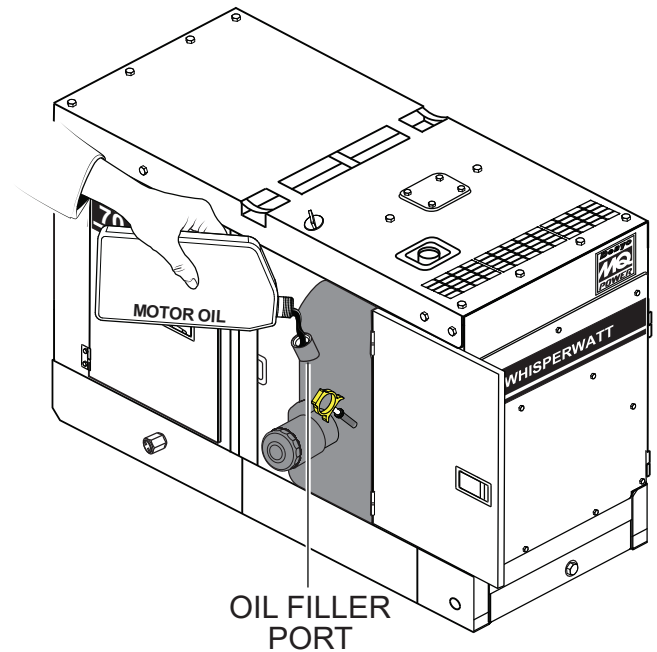

**Figure 31. Engine Oil Dipstick**
3. Reinsert the dipstick, then remove the dipstick from its holder. Check the oil level shown on the dipstick (Figure 31).